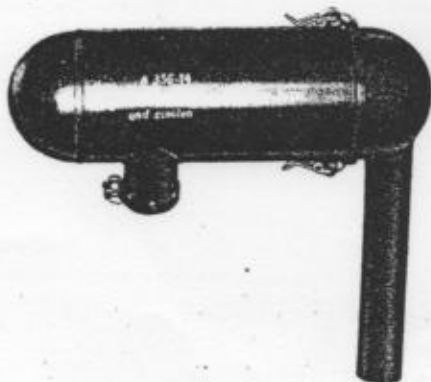

Fig. 35
2. The 700 c.c. Commercial Van three-speed and four-speed models (post van) fitted with BFLH 30 carburetter, Part No. 2031 172 01 01 000, is equipped with an intake silencer with breather tube, Part No. 2031 173 01 01 000 (Mann & Hummel). On this type of intake silencer, as shown in Fig. 35, the breather tube is adjustable to summer and winter positions (see Fig. 45).